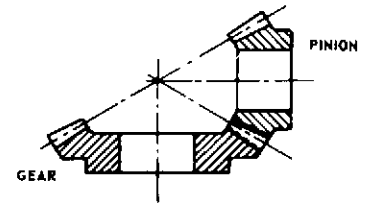

FIGURE 1.5a — BEVEL GEARS
- 1.10** **Bevel Gears** are conical in form and operate on intersecting axes which are usually at right angles. (Figure 1.5a)
- 1.12** **Straight Bevel Gears** have straight tooth elements, which if extended, would pass through the point of intersection of their axes. (Figure 1.5a)